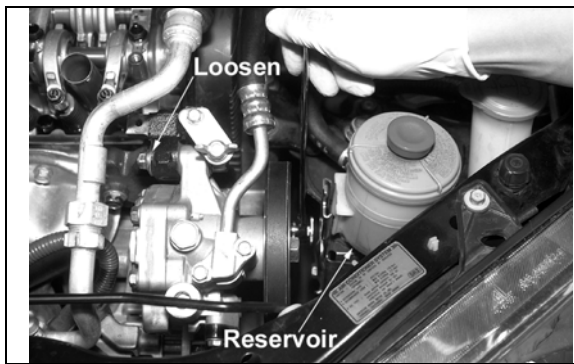

Fig. 8
- k) Loosen the hardware holding the P/S pump (Power Steering) to its mounting bracket. **(Fig. 8)**